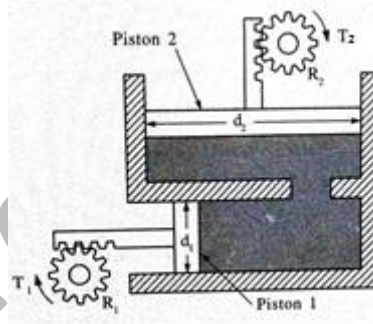

Fig. Q1(a)
- 1 a) Describe and explain Pascal's law with respect to hydraulic system and solve the following problem, where, in the hydraulic device shown in Fig. Q1(a), calculate the output torque T_2 , if the input torque $T_1 = 10\text{N-cm}$. Given: Radius, $R_1=2\text{cm}$, diameter, $d_1 = 8\text{cm}$, Radius, $R_2=4\text{cm}$, diameter, $d_2 = 24\text{cm}$ 08